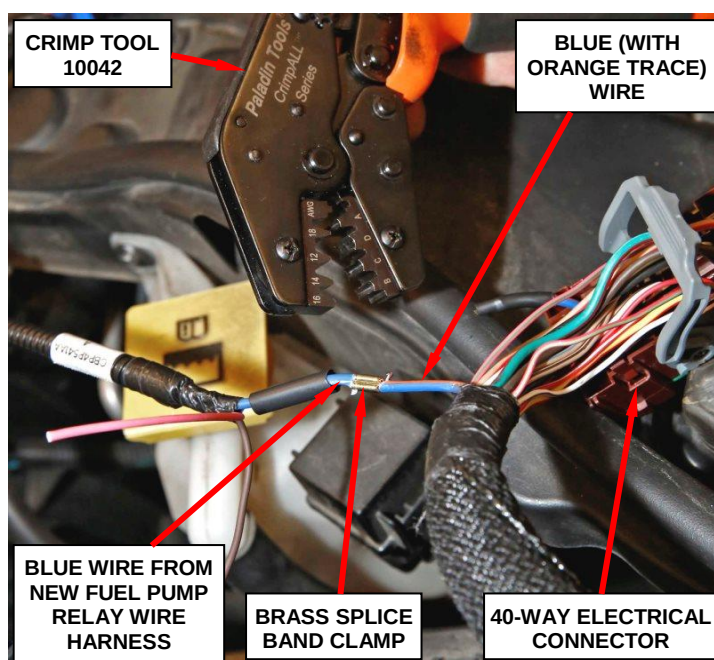

Figure 15 - Crimp and Solder Blue Wire to Blue Wire (with Orange Trace)
- c. Using the supplied brass splice band clamps and crimp tool 10042, crimp the blue wire (with orange trace) on the wire harness side to the blue wire on the fuel pump relay wire harness (Figure 15).
- d. Solder the brass splice band clamp with rosin core solder (Figure 15).